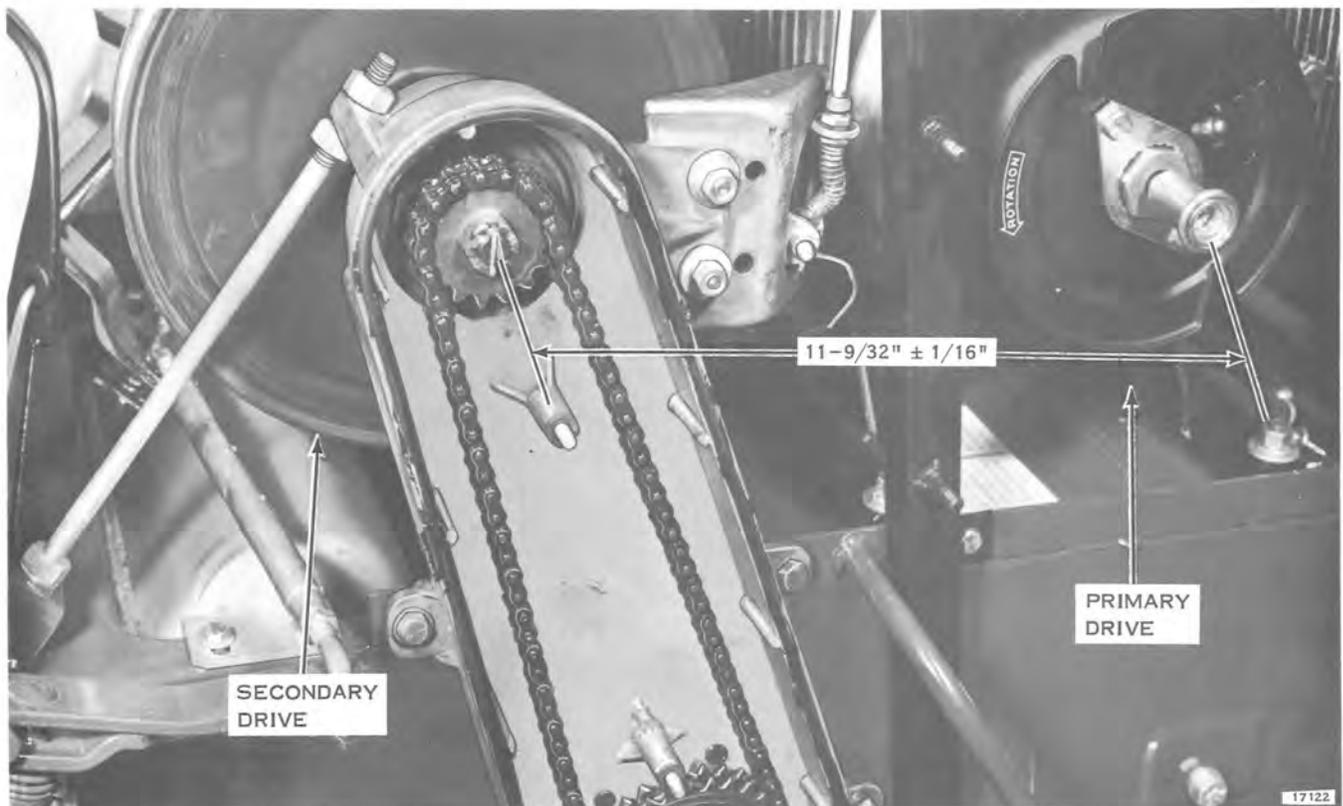

Figure 10-17
24. Check for proper position of secondary drive assembly. Distance from center of primary drive shaft to center of secondary drive (top) sprocket must be $11-9/32" \pm 1/16"$. See Figure 10-17.